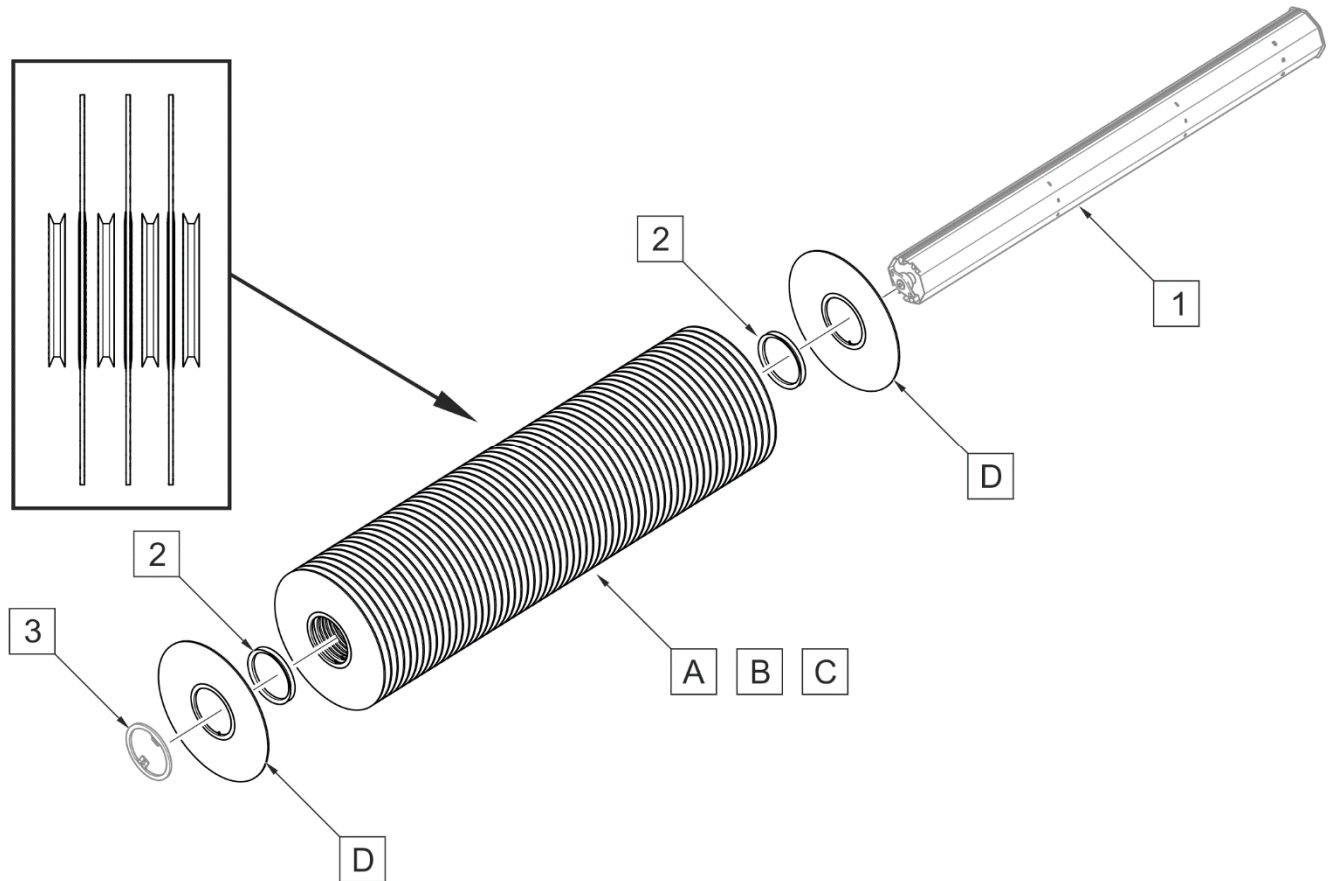

FIGURE 5.8 Roller brush with straight segments
The roller brush consists of individual segments which should be installed on the shaft in a proper manner before the brush is mounted in the machine (FIGURE 5.8). In case of hard and very hard brush, start and finish installing the segments on the shaft with the external segment (D). When assembling the hard brush, install segments (A) and (C) alternately on the shaft. Install spacer rings (2) (60 rings in total) between each straight segment of the brush. After installing all the segments, mount the end ring (3) on the end of the shaft. Brushes having various parameters and designed for various applications are available depending on the customer's requirements. Types of straight segments are given in (TABLE 5.1)